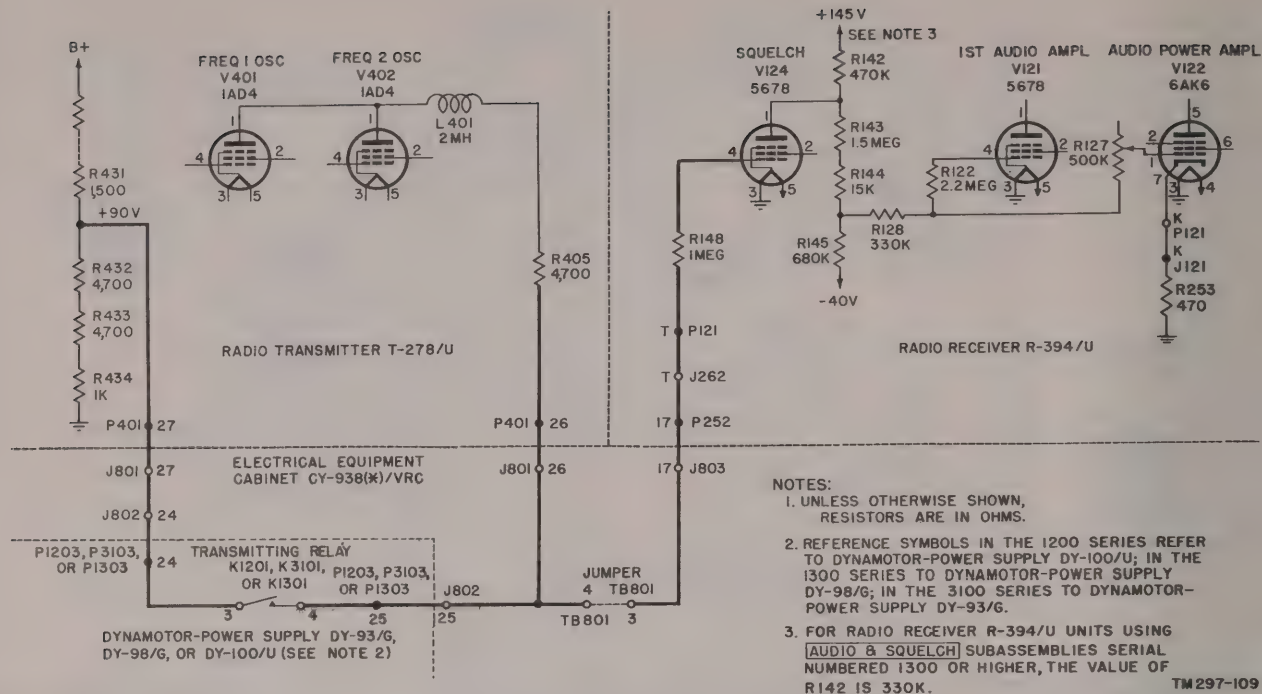

Figure 46. Muting circuit, simplified.
b. The circuit (fig. 46) is controlled by a relay in the transmitter power supply; the relay is operated by the push-to-talk switch on the handset. All three transmitter power supplies use contacts 3 and 4 of the relay. A potential of +90 volts, developed across resistors R432, R433, and R434 in the transmitter, passes through inter-
connections to the relay contacts (fig. 46). From the relay, it is split into two paths; one path goes to the plate circuit of transmitter oscillator tubes V401 and V402 and the other goes to the receiver squelch tube (V124) grid.